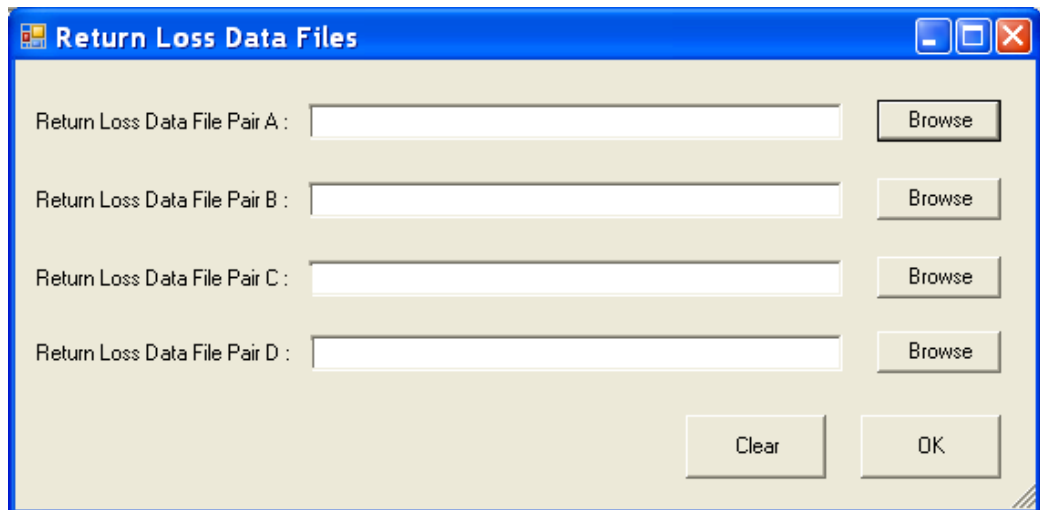

Figure 32 Data file selection pop-up box
- 12 A pop-up box will appear where you can browse the data file and assign it to each pair under test, as shown in Figure 32. Select the data file and click OK.